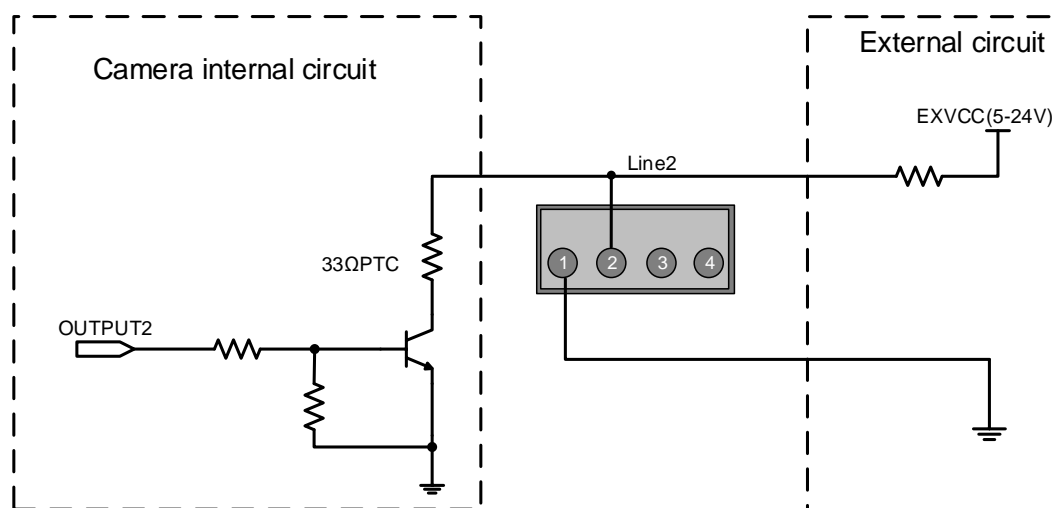

Figure 7-10 Internal equivalent circuit of camera when Line2 is configured as output
- When Line2 is configured as output, the internal equivalent circuit of camera is shown in Figure 7-10